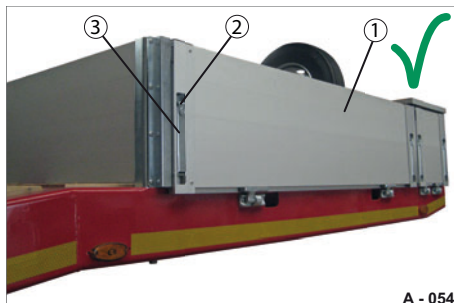

Fig. 49 Platform gate locked
- ▶ Fold the platform gate (Fig. 49/1) up with both hands.
- ▶ Close the hand lever lock (Fig. 49/3) - press it shut with your hand flat.
The safeguard (Fig. 49/2) automatically snaps shut.